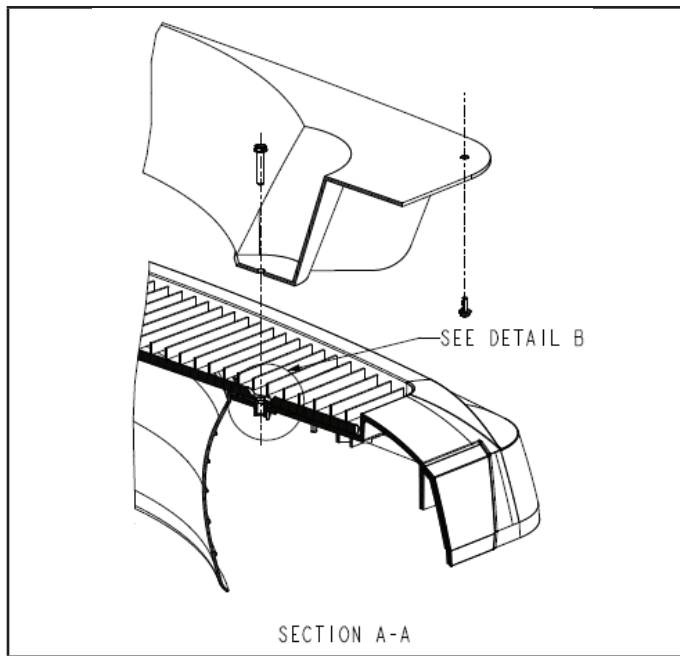

FIGURE 5. Section A-A
- 4 - Use (4) 10-32 x 1.25 screws to attach the snow guard bottom to the top panel (figures 5 and 6). Tighten screws to 25in-lbs torque.